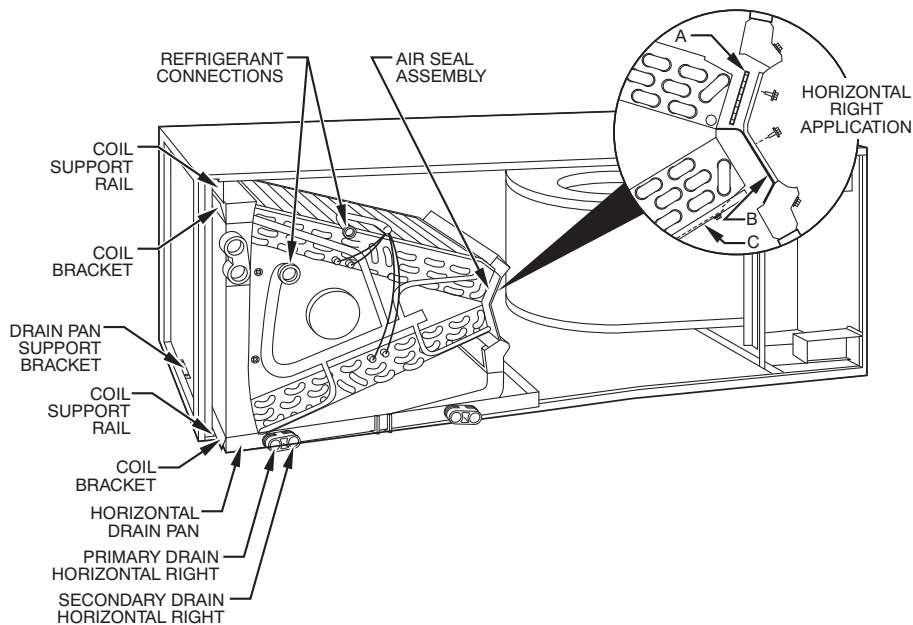

Fig. 5 – Conversion for Horizontal Right Applications - A-Coil
1. Remove blower and coil access panels and fitting panel (Fig. 5).
1. Remove blower and coil access panels (Fig. 5).
- a. Remove air seal assembly from coil by removing 4 screws (Fig. 5).